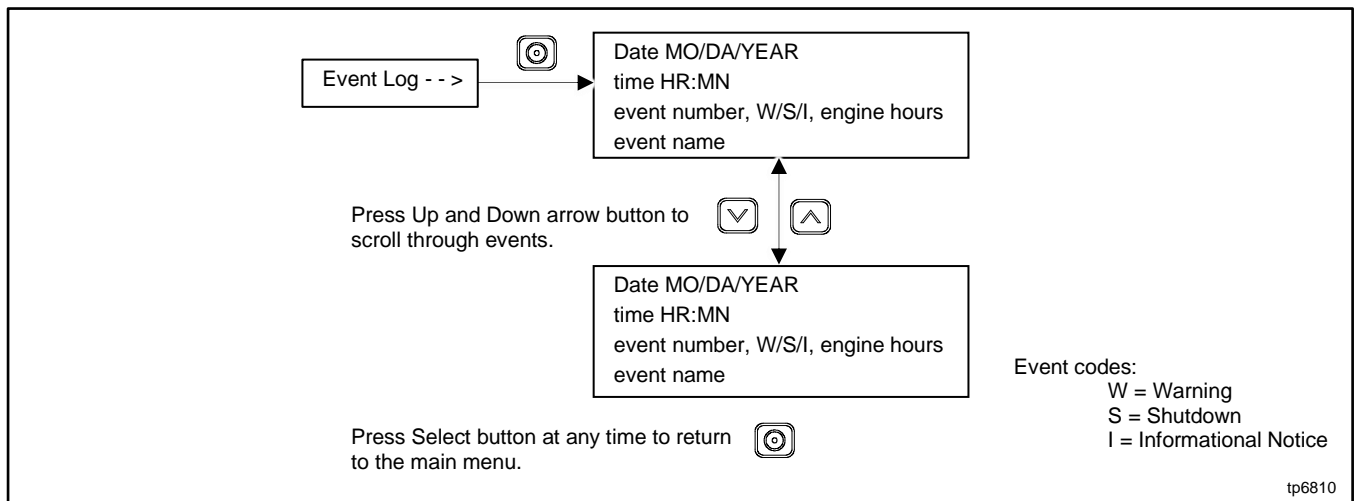

Figure 12 Event Log
3. Press Select to display the most recent event. See Figure 12.